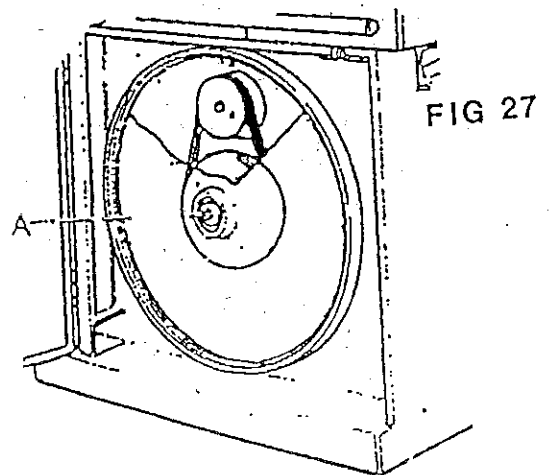

FIG 27
- Remove screw A (Fig. 27) and remove flywheel B from its shaft -